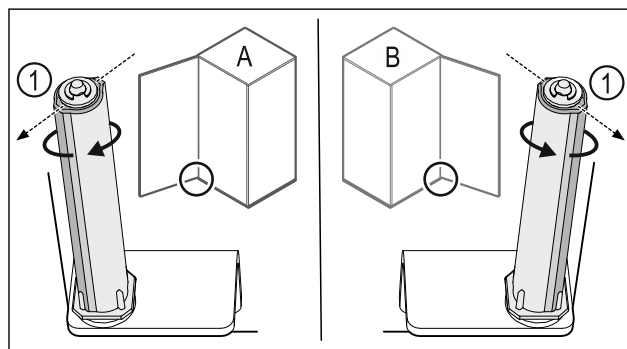

Fig. 39 Left-hinged (A) / Right-hinged (B)
- ▶ Turn the closing system against the resistance until the bar of the closing system Fig. 39 (1) points outwards.